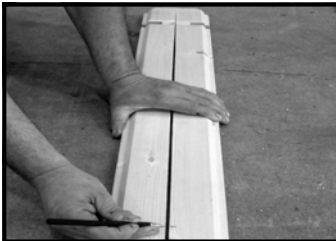

Fig B3
3. Place the 'A1' logs against each other and transfer all the lines across (fig B3).